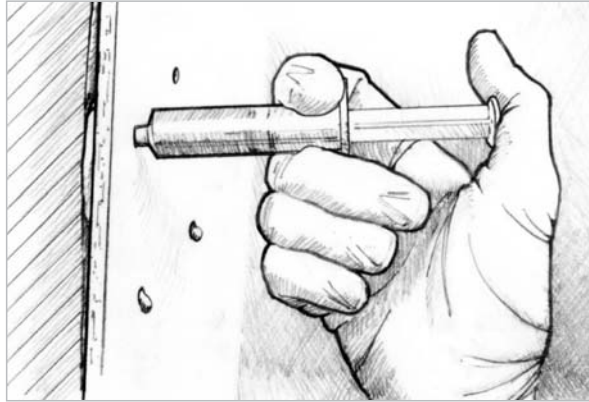

Figure 8-1 Drill $\frac{3}{16}$ " holes through the laminate, in areas of suspected voids. Inject the mixture into the voids.
3. Fill all voids between laminate and the lead ballast with an epoxy/404 or 406 filler mixture, thickened to a catsup consistency, after the laminate and voids have been thoroughly dried. Use an 807 Syringe, with the tip cut back to fit the $\frac{3}{16}$ " (5mm) hole, to inject the mixture under pressure into the void (Figure 8-1). Fill the remaining holes in the laminate with an epoxy/404 or 406 filler mixture thickened to a mayonnaise consistency. Allow the epoxy to cure thoroughly. If voids are extensive, use an 810 Fillable Caulking Tube (with the appropriate sized drilled hole in the laminate) to fill the voids. If necessary, use multiple applications to avoid excessive exothermic heat buildup from filling too large a void at one time.